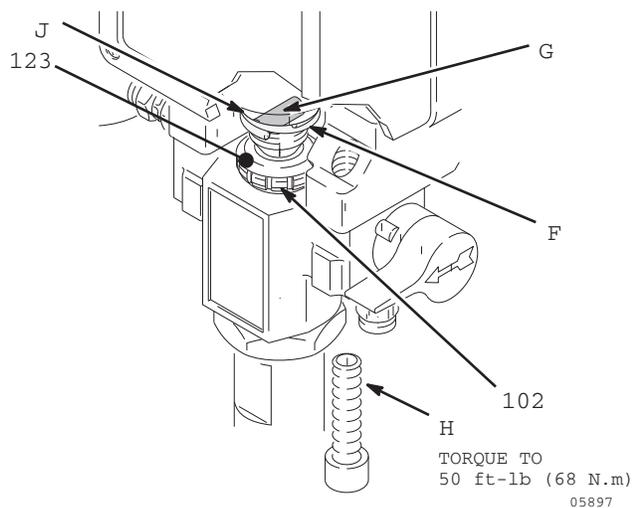

FIG. 2
(FIG. 1 and FIG. 2)
Be sure the retaining spring (F) is firmly in the groove all the way around, to prevent the pin (G) from working loose due to vibration. See Fig 2. If the pin works loose, it or other parts could break off due to the force of the pump action. These parts could be projected into the air and result in serious injury or property damage, including the pump connecting rod or bearing housing.
3. Replace the o-ring (J) if worn or damaged. Reconnect the suction and drain hoses.
4. Tighten the packing nut (102) just enough to stop leakage, but no tighter. Fill the packing nut/wet-cup 1/3 full with Graco TSL. Push the plug (123) into the wet-cup.